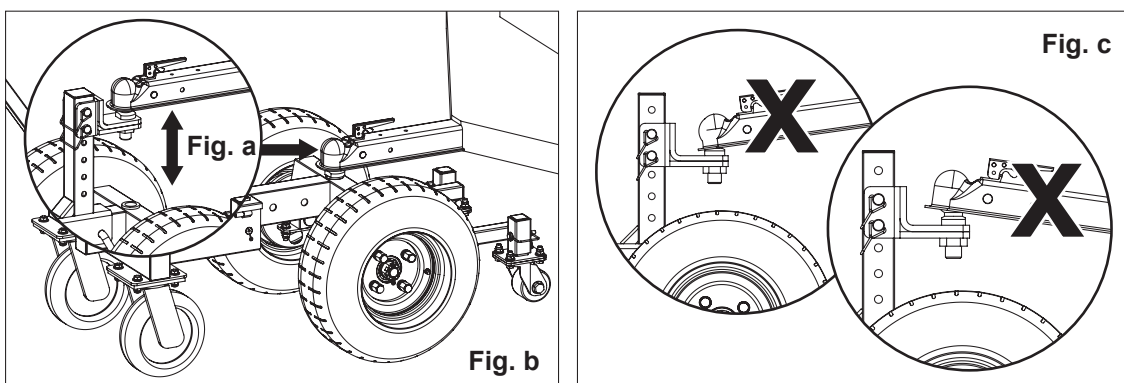

Fig. 9
2. The hitch ball height of the dolly can be adjusted up and down (Figure a), or the hitch ball can be installed directly on the main frame (Figure b), with the lifting range of the hitch ball height:17.2"-25.6". When installing the trailer, always make sure the trailer tongue is parallel to the ground, because any tilt will affect the traction efficiency and even the safety risk of overturning (Figure c). **(See Fig.9)**